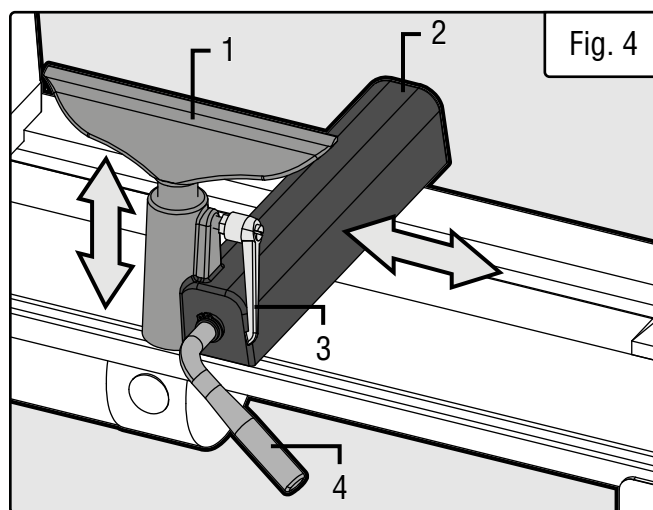

Fig. 4
3. Lock the tool rest base in place using the locking lever (Fig. 4 – 4) see “ADJUST THE TOOL REST” below).
1. Loosen the tool rest locking handle (Fig. 4 – 3). The handle is spring-loaded and can be re-positioned as needed.
2. Insert the tool rest (Fig. 4 – 1) into the tool rest base (Fig. 4 – 2).
1. The tool rest locking lever (Fig. 4 - 4) locks the tool rest base (Fig. 4 - 2) in position. Loosen the lever to slide the tool rest base along the lathe bed. Tighten the lever firmly when the tool rest base is properly positioned.
2. The tool rest locking handle (Fig. 4 - 3) locks the tool rest (Fig. 4 - 1) in place. Loosen the handle to position the tool rest at the specific angle or height. Tighten the handle firmly when the tool rest is properly positioned.